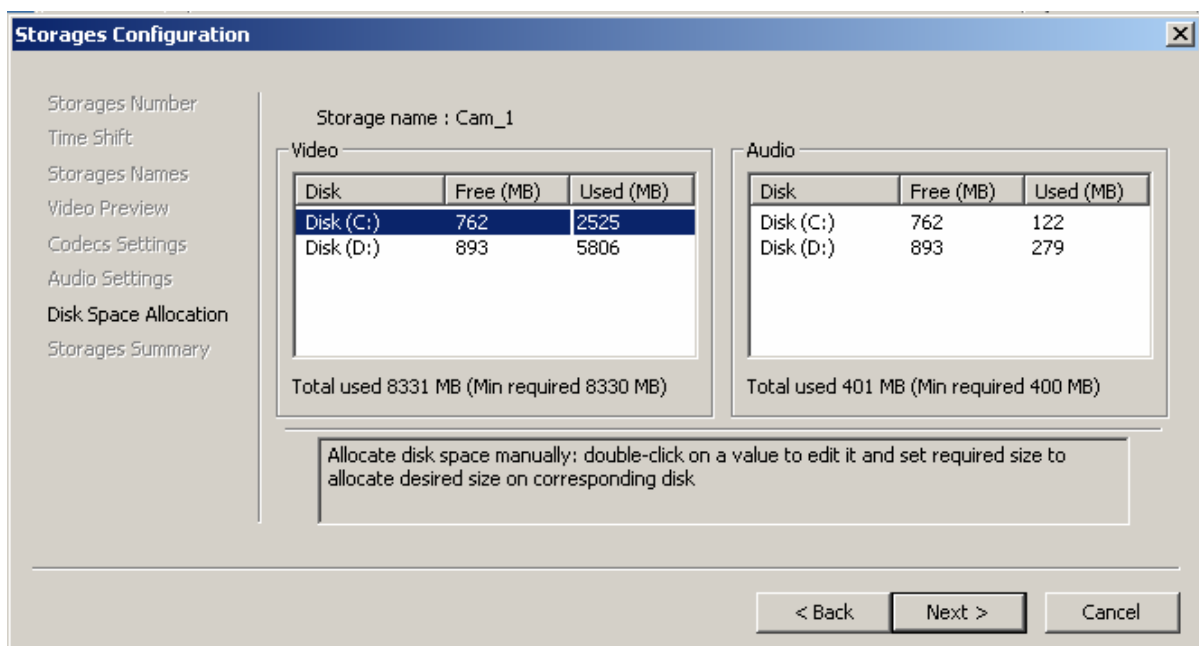

Fig. 14. Manual disk space allocation
On these pages (Fig. 14), which are displayed in turns for each storage, there are two tables: **Video** for video data and **Audio** for audio data. Each of them includes three columns: **Disk**, **Free (MB)**, and **Used (MB)**. The first column displays disks names, the second column displays free space on each disk, the third – the space allocated for a storage on the disk.